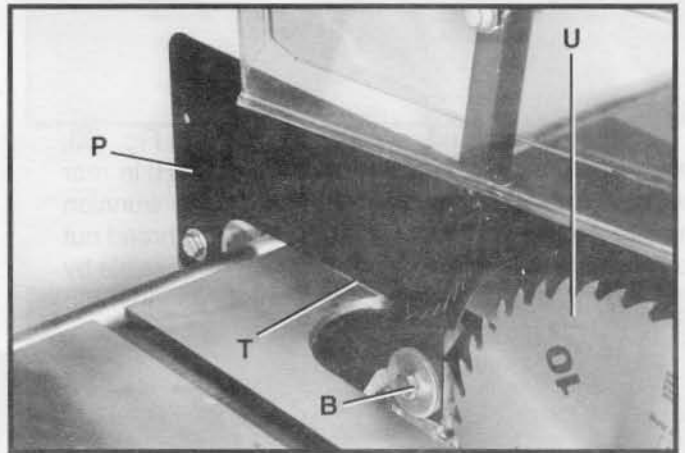

Fig. 26
11. Assemble splitter (P) Fig. 26, inside the splitter mounting bracket as shown. Push splitter (P) down as far as possible, making certain bottom edge (T) of splitter (P) is parallel with table surface, and tighten screw (B).